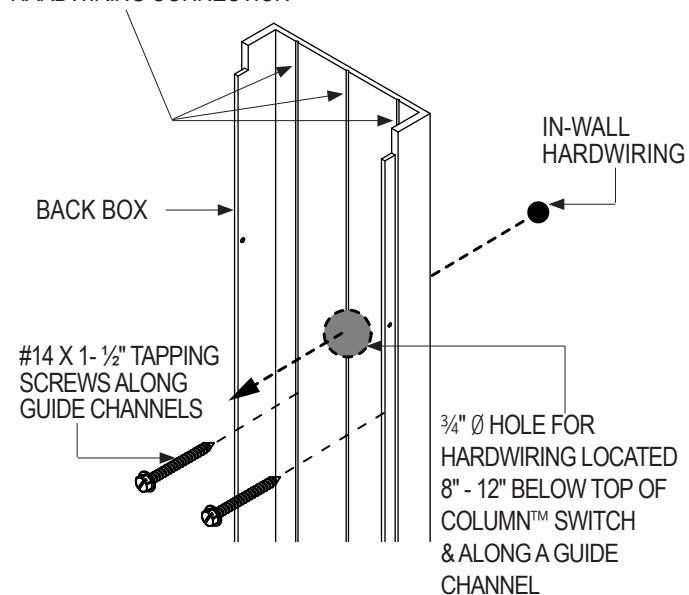

Figure 4.2 Guide Channels
6. Drill the mounting screw holes on the Back Box using drill bit 17/64" for either #14 tapping screws or 1/4"-20 machine screws. (Figure 4.2 and 4.3)
8. Drill the 3/4" Ø hole on the Back Box for hardwiring connection. (Figure 4.2 and 4.3)